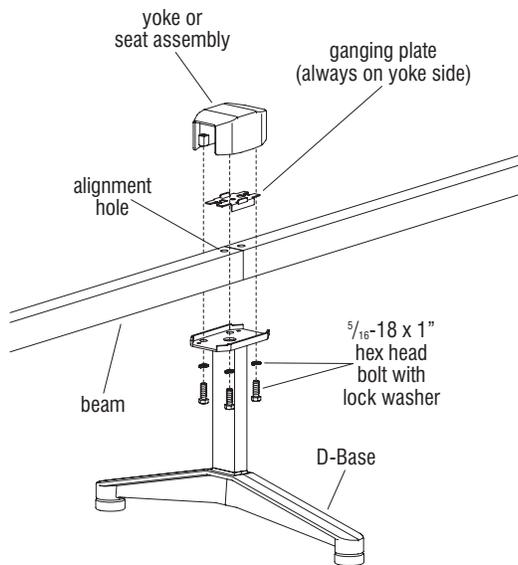

Figure 6
25. Set the pair of beams to be joined onto the D-base as illustrated. The alignment holes at the end of each beam must face up (Figure 6).
26. Position the ganging plate over the beams as illustrated, so the tabs fit into the alignment holes. Place a yoke over the ganging plate, beams and base. Secure from underneath with four $\frac{5}{16}$ -18 x 1” hex head bolts and lock washers. Torque bolts to 21 ft/lb in a diagonal pattern (Figure 6).